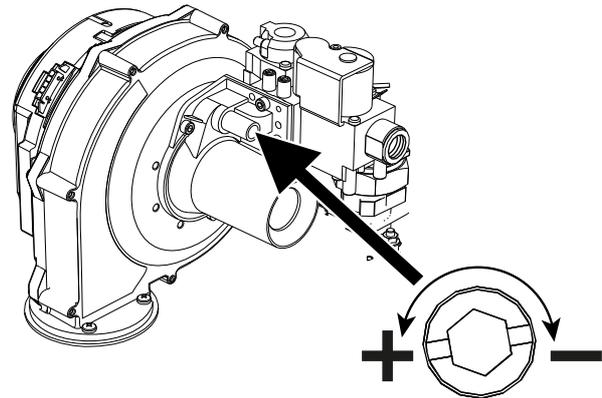

fig. 95- Maximum capacity adjustment screw
- If the values do not correspond to those indicated, adjust the CO2 with the adjustment screw (see fig. 95), bringing them back to those indicated.